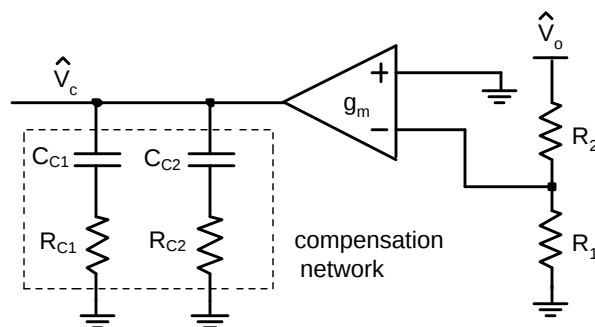

Figure 19. Compensation Network
- $R_1$  and  $R_2$  are the feedback resistors as shown in Figure 19
The compensation network (Figure 19) will also introduce a low frequency pole which will be close to 0Hz.
A second pole should also be placed at  $f_z$ . This pole can be created with a single capacitor  $C_{c2}$  and a shorted  $R_{c2}$  (see Figure 19). The minimum value for this capacitor can be calculated by: